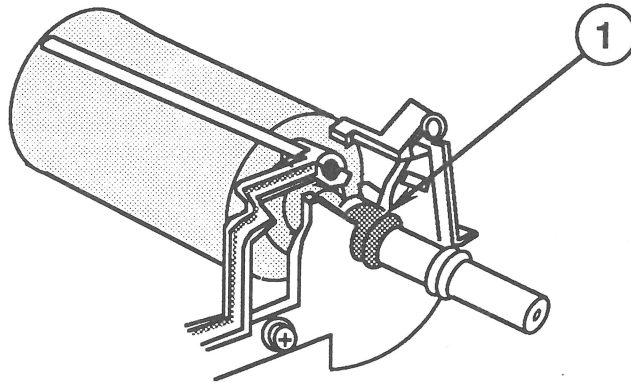

FIGURE 7
6. Using the flat-blade screwdriver, move the platen catches (Figure 7, #1) inward, toward the platen.